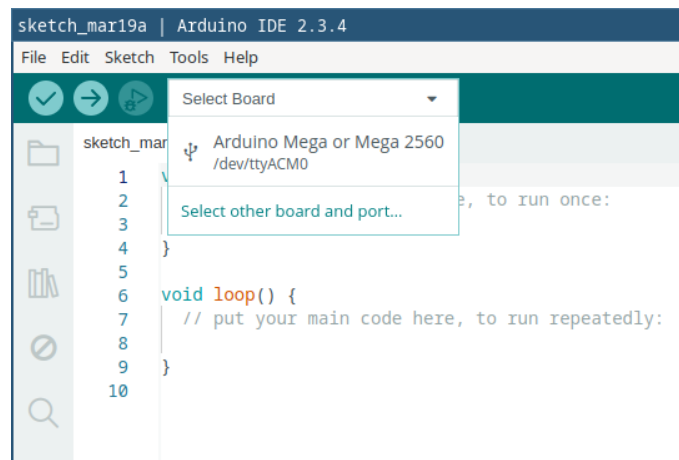

Figure 9: Select Your Arduino in the 'Select Board' Menu.
3. **Select Your Arduino Board** - If it is not already, plug your Arduino Mega 2560 board into the computer via its USB cable. Once plugged in, click on the drop-down towards the top of your screen titled 'Select Board' as shown in Figure 9. Here you should see your board listed. Click on it to select it. Now we are ready to upload code to our board.